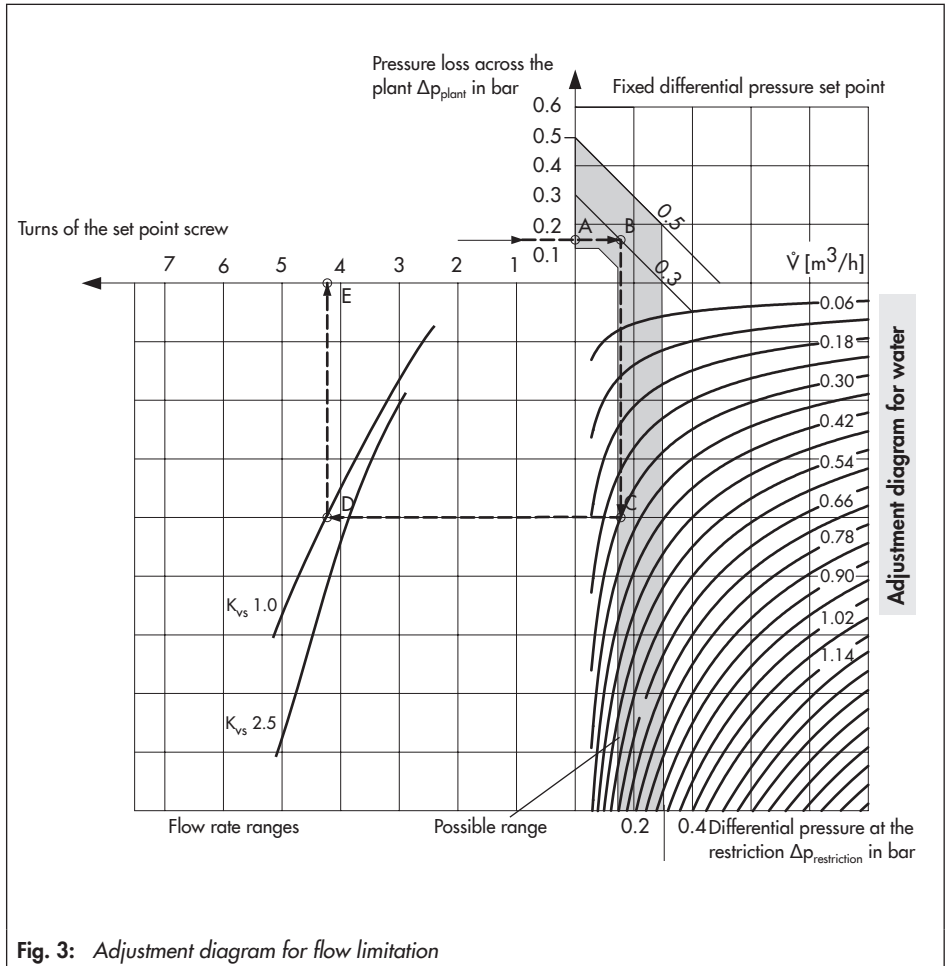

Fig. 3: Adjustment diagram for flow limitation
Use the diagram in Fig. 3 as a guide for adjustment.
- Determine the adjustment values using the adjustment diagram in Fig. 3.
Sequence: points **A** to **E** in diagram (Fig. 3).